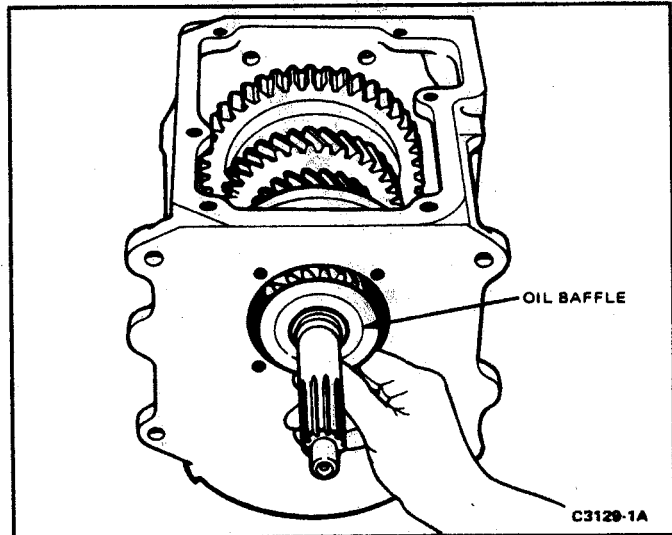

FIG. 9 Removing Input Shaft Oil Baffle
12. Remove the input shaft oil baffle (Fig. 9).